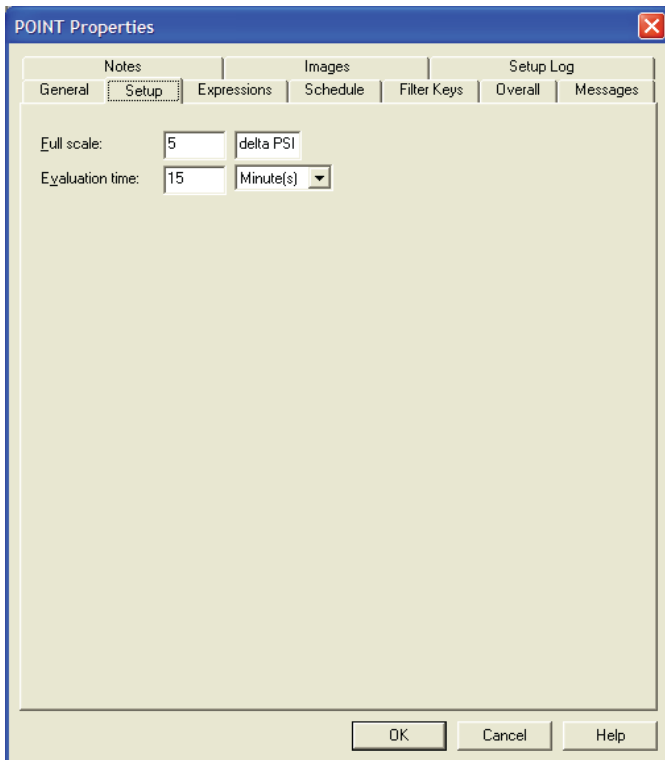

Figure 6. Changes to the derived POINT unit.
- 10 So let’s make these changes. Highlight the derived POINT, right-click and select Properties. Select the Setup tab. Change Full scale units to “delta PSI” (refer to **Figure 6**).